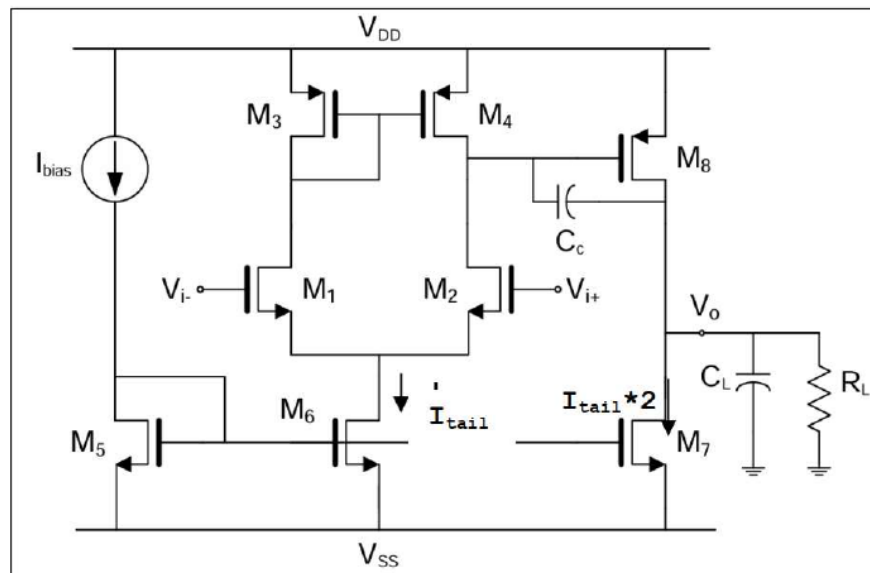

Figure 11. Two-stage miller operational amplifier
- The simplest operational amplifier is the simple differential amplifier studied earlier. This amplifier can be improved by adding a second stage as an inverting amplifier with a current source load. The two-stage amplifier shown in **Figure 11** is referred to as a Miller Opamp.